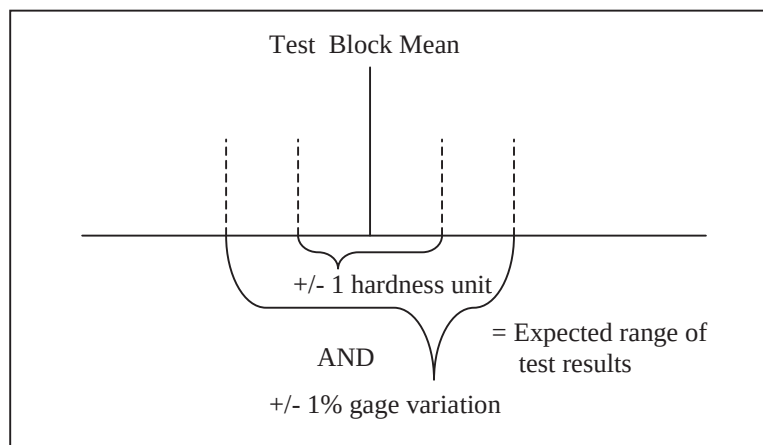

Figure 59 - Example test block specification range
- 6.) The average value from four (4) test samples on the steel test block must be within a defined range in order to pass this calibration check. Figure 59 is a graphical explanation of the specification range. Each calibration block is labeled with a defined hardness value. This hardness value is given a range, typically ± 1 . What is not shown on this label is the additional gage variation of 1% that also must be applied to get the full range of acceptable values.